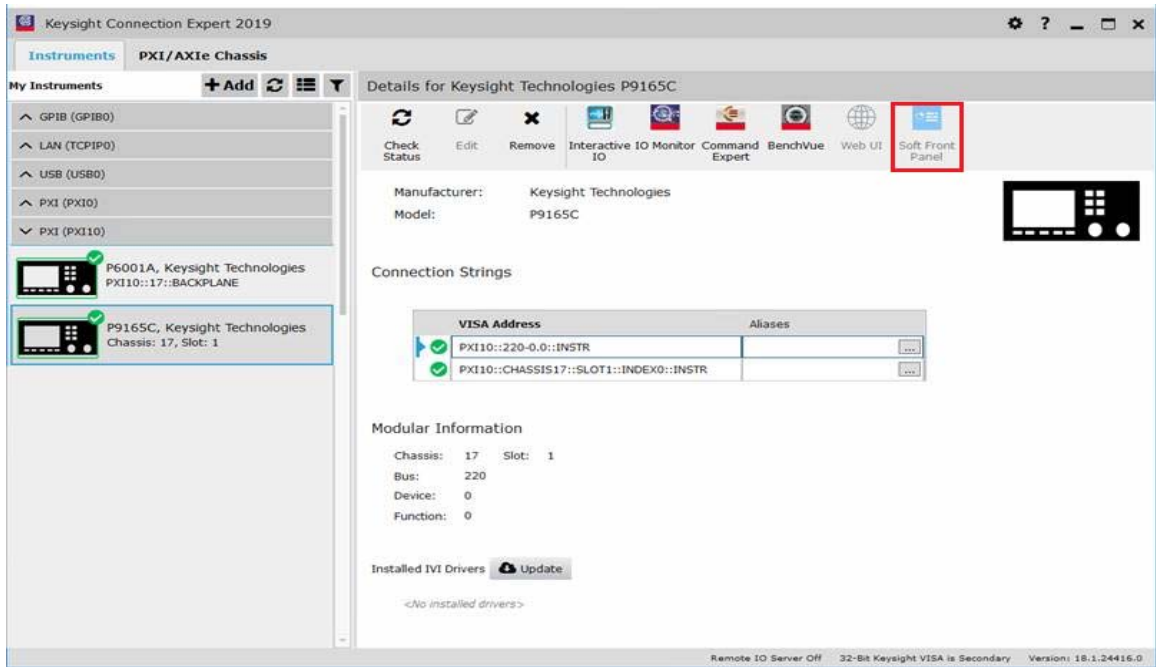

Figure 1-2 Launching the SFP from Keysight Connection Expert
- 3 Launch the soft front panel (SFP) software from **Start > All Programs > Keysight > KtMSwitch > KtMSwitch SFP** or from the Keysight Connection Expert. On the Keysight Connection Expert, select the installed switch module and click **Soft Front Panel** to launch the SFP as shown in Figure 1-2.